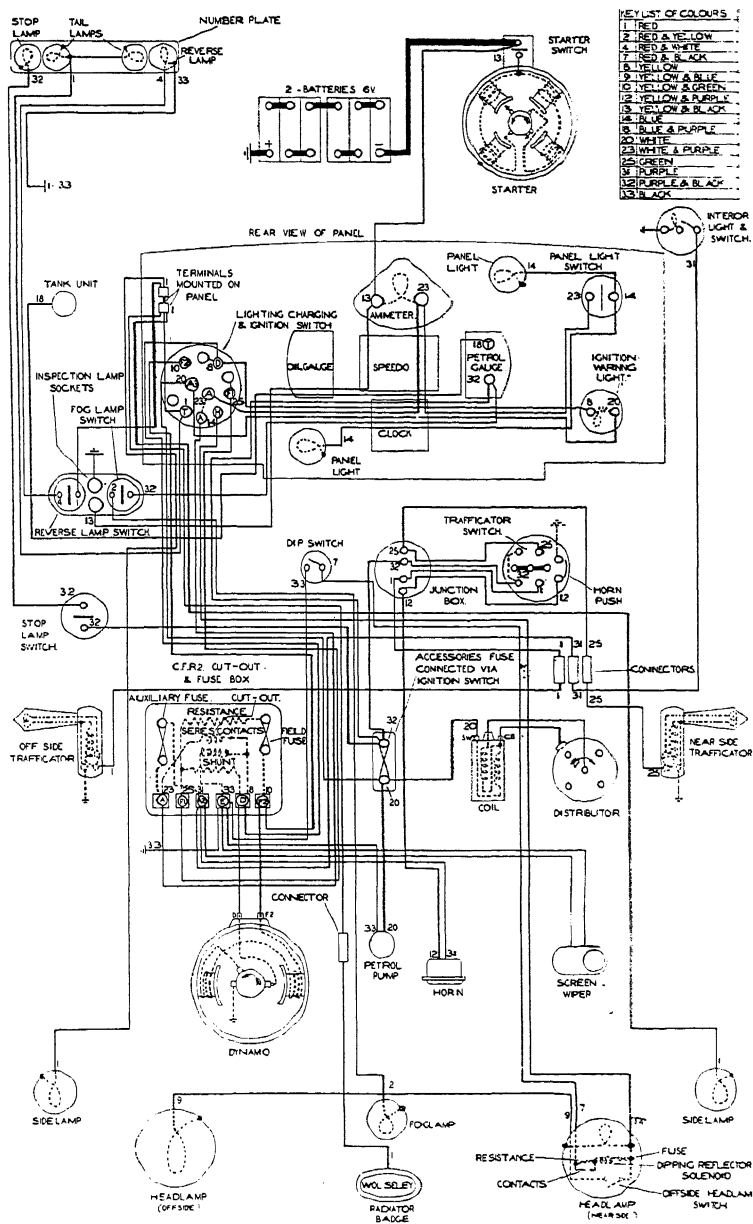

Fig. 2.—A TYPICAL WIRING DIAGRAM FOR CAR WITH THIRD-BRUSH DYNAMO
Where a break in the line, with surrounding radial lines, is drawn, as at (11), a fuse is understood to be inserted. Another method of indicating a fuse is by two circles connected by two crossed lines; as shown in Fig. 2.